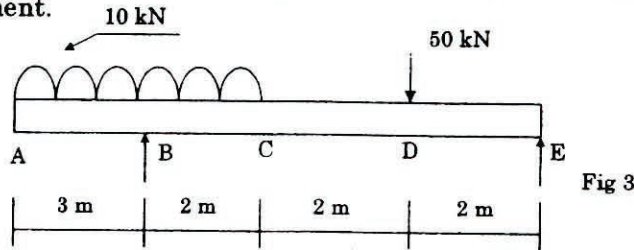

Fig 3
- (b) Draw SFD and BMD for the beam shown in Fig. 3. Indicate the position and the magnitude of maximum bending moment.